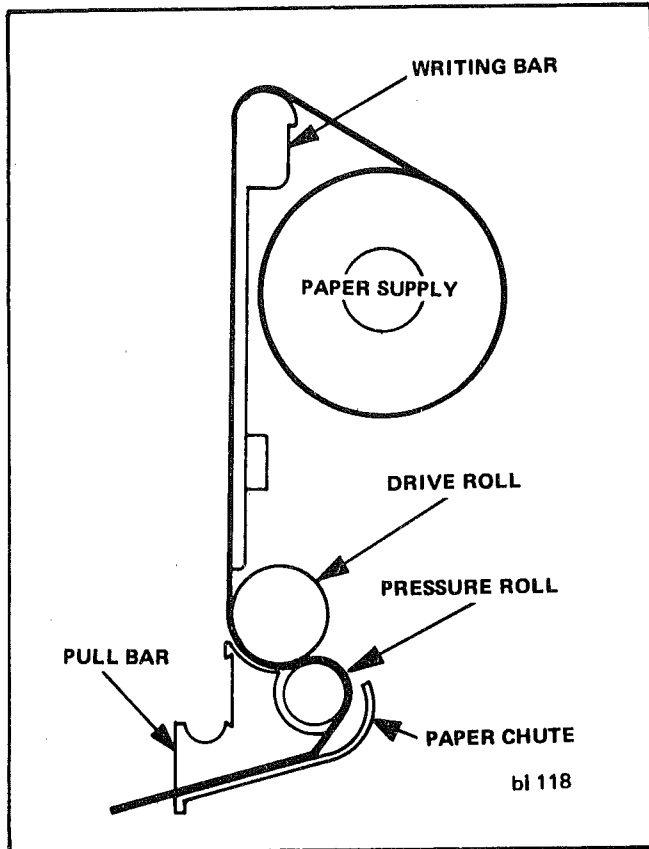

FIGURE 5-3 PAPER THREADING DIAGRAM
7. Refer to Figure 5-3. Feed paper over writing bar, down through slot between pull bar and drive roll, around pressure roll, and out to front of writing table assembly.